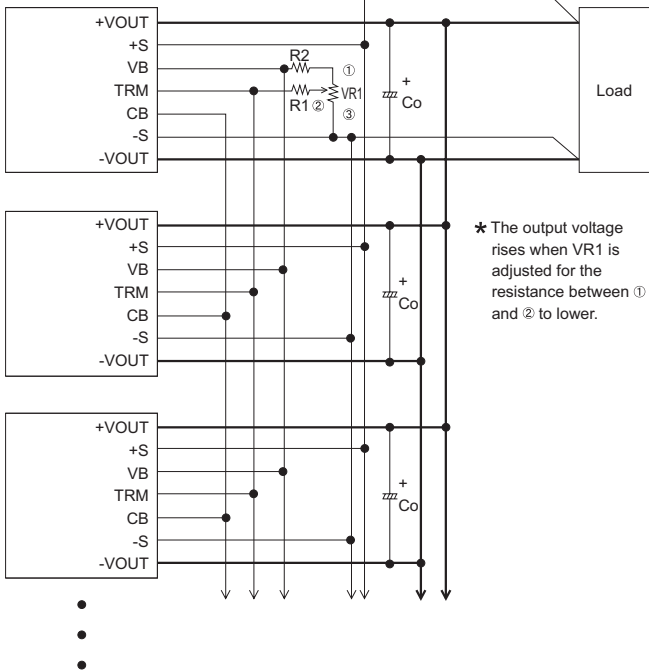

Fig.5.2 Examples of parallel operation
- Parallel operation is available by connecting the units as shown in Fig.5.2.